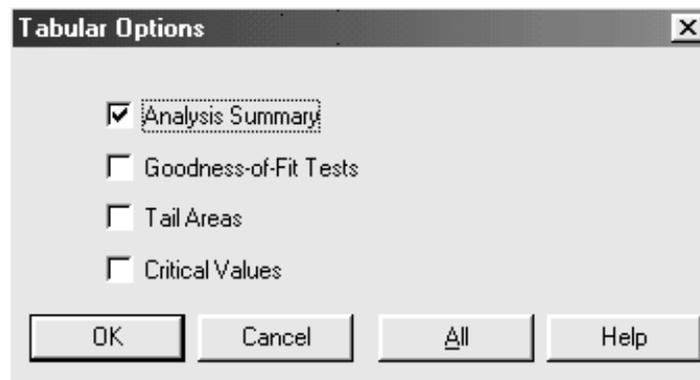

Figure 2-18. The Tabular Options Dialog Box for the Weibull Analysis
1. Click the Tabular or Graphical Options button on the Analysis toolbar to display the dialog box (see Figure 2-18).